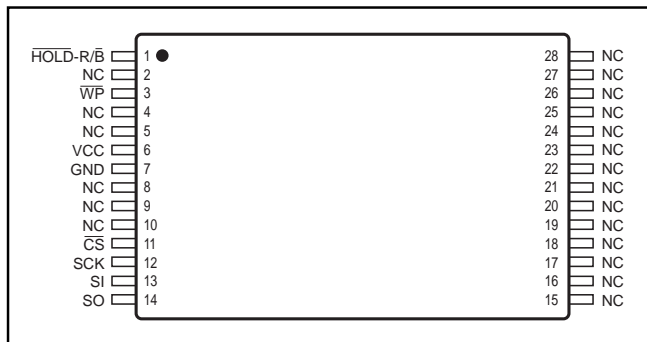

Figure 3. IS25F011A, IS25F021A, and IS25F041A Pin Assignments, 28-Pin TSOP (Type I)
The IS25F011A, IS25F021A, and IS25F041A are available in a 28-pin TSOP (Type I) surface mount package. See Figure 3 and Table 1 for pin assignments. All interface and supply pins are on one side of the package. The “No Connect” (NC) pins are not connected to the device, allowing the pads and the area around them to be used for routing PCB system traces. The devices are also available in a cost-effective and space-efficient removable Serial Flash Module package.